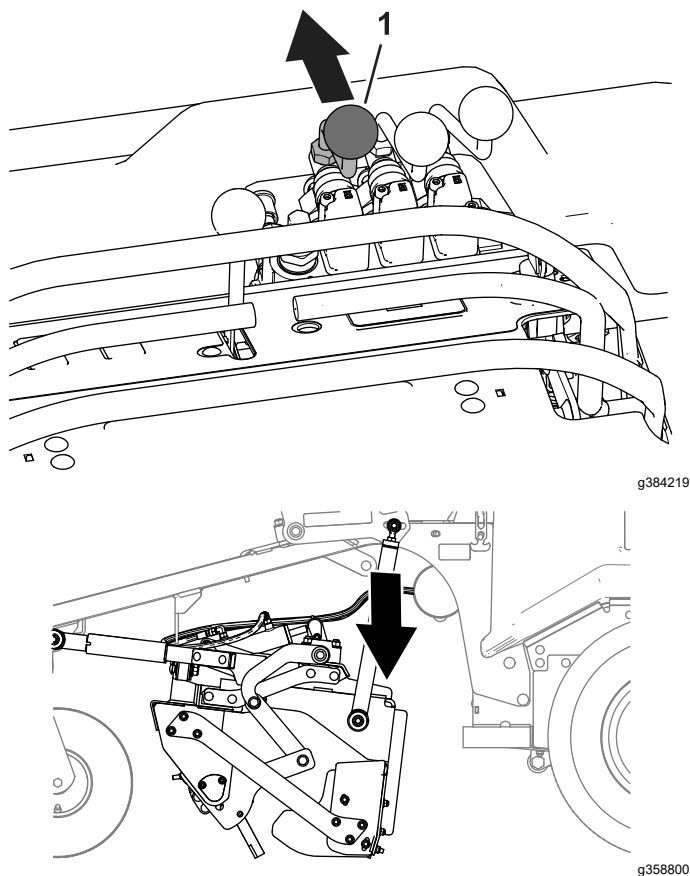

Figure 32
3. With the engine running, push forward the mid-mount attachment lift control to lower the mid-mount attachment (Figure 32).